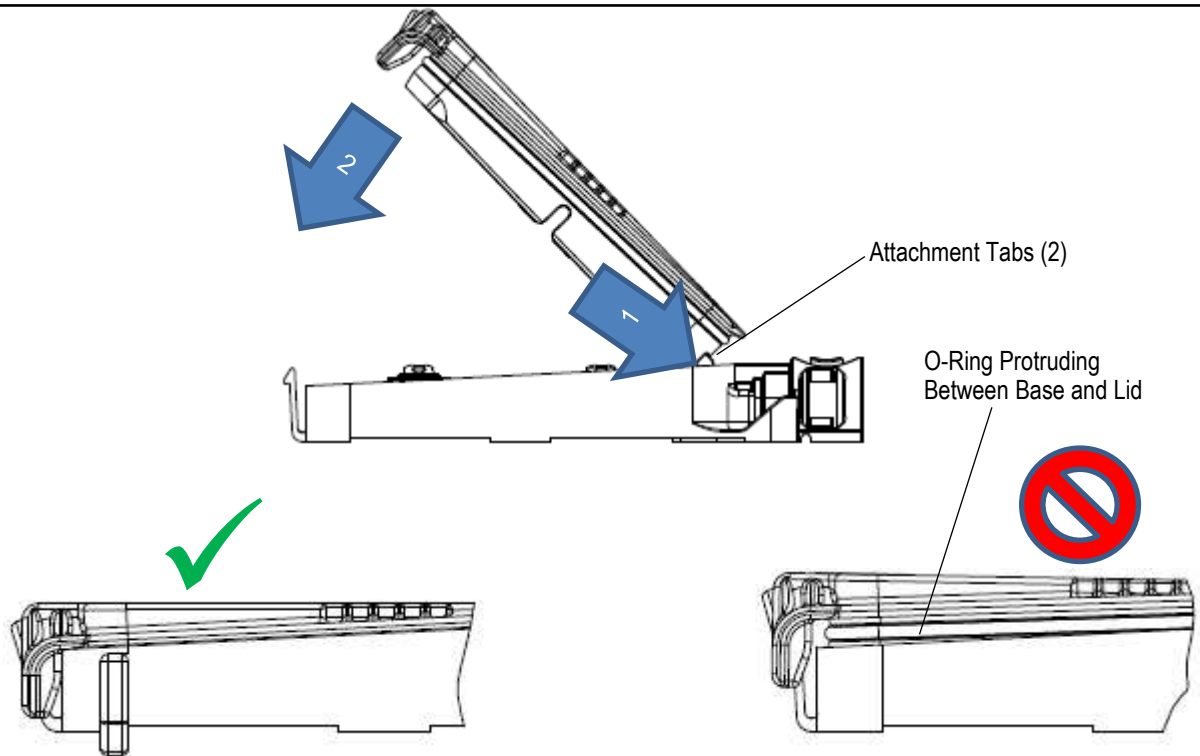

Figure 12
3.9. Closing the Lid (Figure 12)